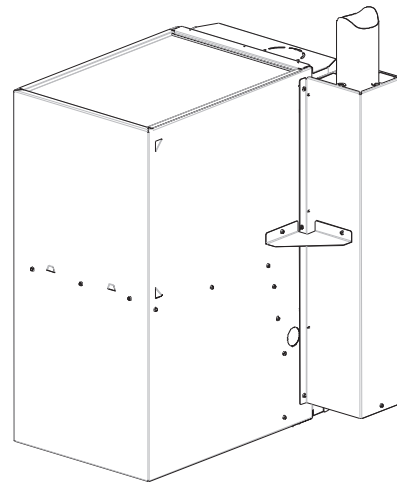

Fig. 8 - Field-Fabricated Optional Support Bracket
13. If vent guard needs additional support, field fabricated angle brackets may be installed between the furnace casing and back of vent guard. (See Fig. 8.)